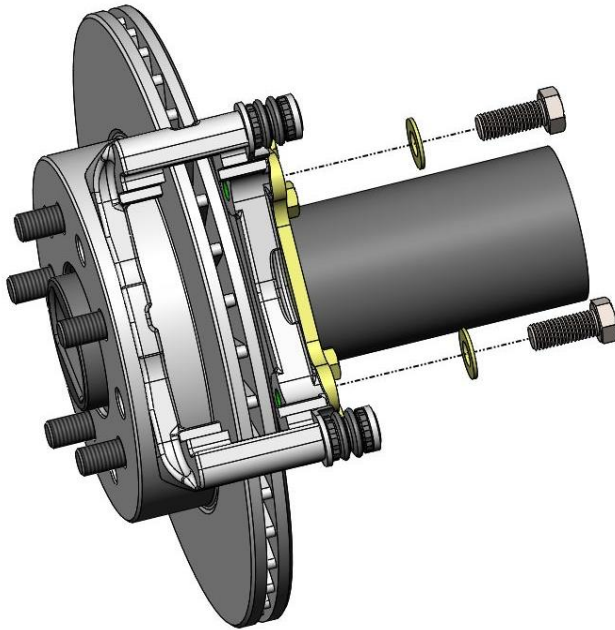

Figure 5 – Caliper Anchor Installed
8. Remove the Caliper Anchor Bracket from the caliper along with the brake pads. Install the Caliper Anchor Bracket over the rotor and position against the Secondary Caliper Mounting Bracket. Use the provided M12 Flat Washers and M12-1.75 x 30mm Hex Head Bolts and torque the bolts to 80 lb/ft. See Figure 5 below for reference.